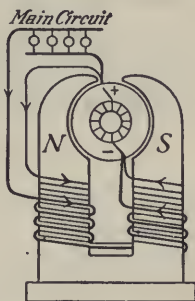

FIG. 287.—A compound-wound dynamo.
C. the *compound wound dynamo*. This dynamo has both shunt and series coils upon its fields. (See Fig. 287.) If more current is drawn into the main circuit with this dynamo, the series coils produce a stronger field compensating for the weaker field of the shunt coils, so that uniform voltage is maintained. The compound wound generator is therefore the one most commonly employed.